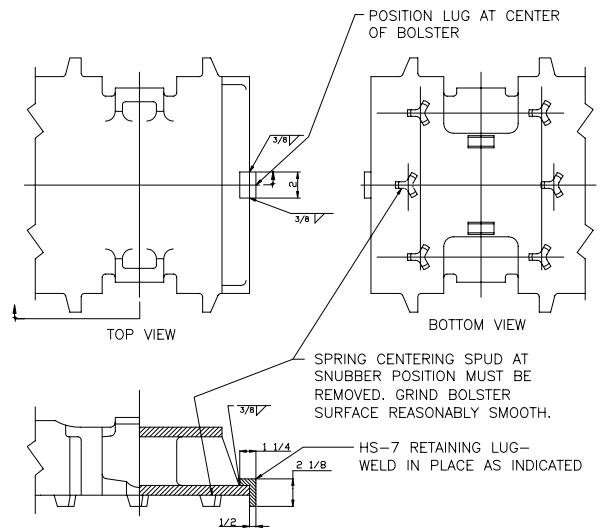
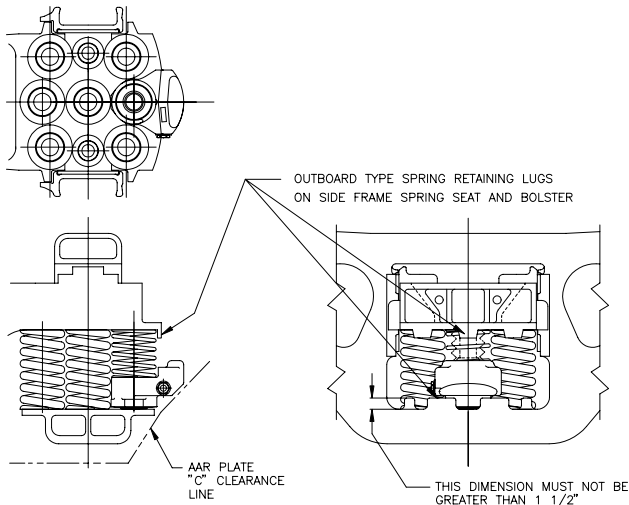

Figure 2. Bolster Modification
Figure 3. Arrangement of HS-7 in Typical Freight Car Truck
Figure 3 shows an HS-7/SV-7 in a typical 100-ton spring nest. When the truck spring nest has three outboard positions, the stabilizer should be installed in the center outboard position. If there are only two spring positions in the outer row, as on the 6 x 11 ride control truck, the stabilizer is usually located in the right-hand position as one faces the bolster. The units are then diagonally opposed in each truck.
The truck spring retainer on the bolster at the stabilizer location must be of the outboard lug type, as illustrated in Figure 3. This arrangement is widely used in the ASF Ride Control truck design. This lug should be at least 1-1/2" wide x 1/2" thick, and project below the bolster undersurface no less than 3/4" and no more than 1-3/16". An internal centering spud type of spring retention is used on many Barber type trucks, cast on the underside of the truck bolster. The one at the stabilizer location must be removed as shown in Figure 2. An outboard or fence type lug must then be added for stabilizer retention, this is also shown in Figure 2. These lugs are available from A. Stucki Company. The bolster surface in the area where the centering spud has been removed must be ground smooth (remove all projections). Bolsters with integrally cast or retrofit lugs designed for retaining the Stucki HS-6 hydraulic stabilizer will accept the HS-7/SV-7 with no additional modification.
The position the HS-7/SV-7 will occupy on the spring seat must be reasonably flat. Again, retention of the unit at the lower end must also be provided by outboard lugs such as are shown in Figure 3. Note the HS-7/SV-7 will not fit into a spring nest where the side frame has an outer rim or "fence" around the spring seat that is higher than 1-1/2" from the seat surface.
5. Depress the body spring downward and inward until it passes under the bolster lug. Tilt the top of the spring inward until the spring is completely inside the bolster lug and can extend to meet with the bolster undersurface as shown in Figure 3. In the case of trucks designed for the shorter 2-1/2" or 3-1/16" travel springs (D-3 and D-4) and particularly the low-level style 6x11 trucks, considerable compression of the HS-7 retaining spring will be required to depress it below and past the bolster lug. Generally a pair of pry bars, one utilized on each side of the lug, may be required for such installations. When pry bars are used, care must be exercised to avoid striking the exposed area of the piston rod.